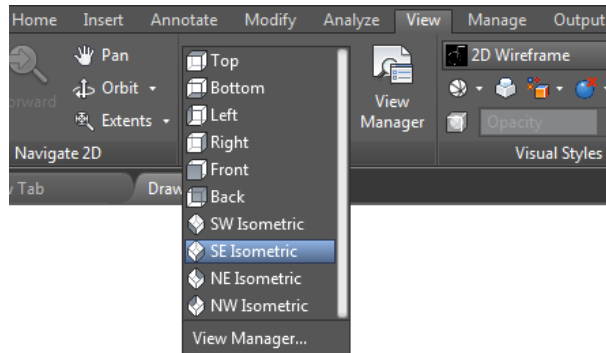
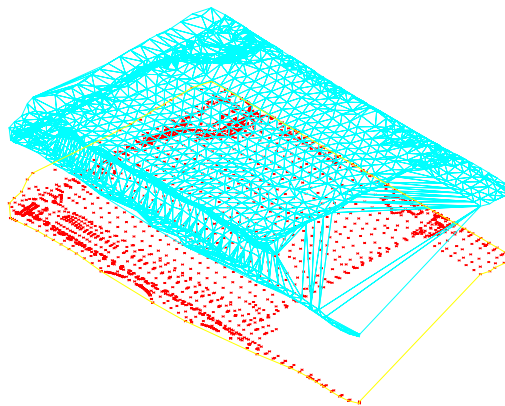

Figure 3-62 The SE Isometric button chosen from the View tab
Figure 3-63 The SE Isometric view of the EG Surface
7. Choose the **SE Isometric** button from the **Views** panel of the **View** tab, as shown in Figure 3-62 to view the surface in 3D view; the surface is displayed with triangles at an exaggerated elevation, and the surface border and points are displayed at the original elevation, as shown in Figure 3-63.
Figure 3-63 displays the model view of the surface using the model view settings previously defined for surface style.